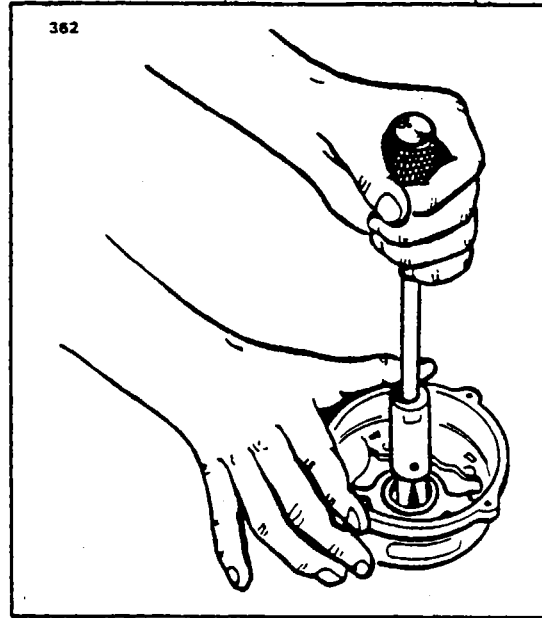

Figure 11-19. Removal of Slip Ring End Bearing
e. To remove the slip ring end bearing and grease seal, it will be necessary to have a hook type or impact type bearing puller as shown in Figure 11-19. Do not remove the bearing unless replacement is necessary.